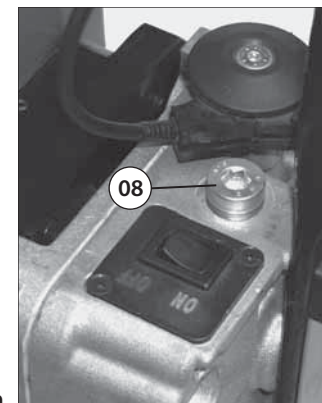

FIG. 26a
(Ref. to Fig. 26a and 26b):
13.1.1) Topping up oil (Ref. to Fig. 26a and 26b)